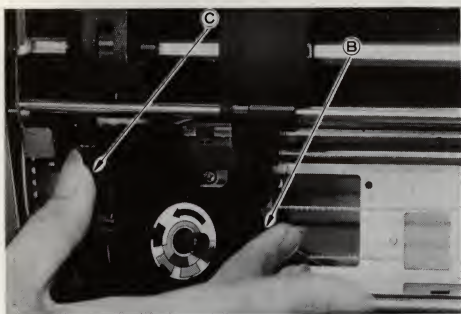

Figure 17.
3. Connect the other socket in the Serial Port Connector either in the back of your computer (see Figure 17.) or in your Disk Drive (see Figure 18.). Again make sure that you are "keying" the pins properly with the connector with 6 holes.